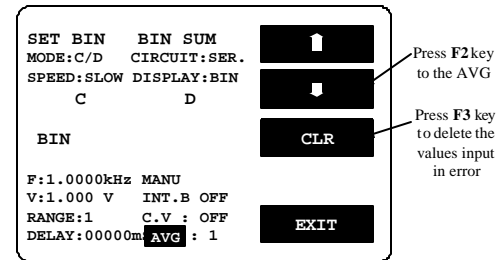

Figure 8-13
- Press $\bar{\Delta}$ key shown as Figure 8-13 below. For further details, please refer to 4-5-7.